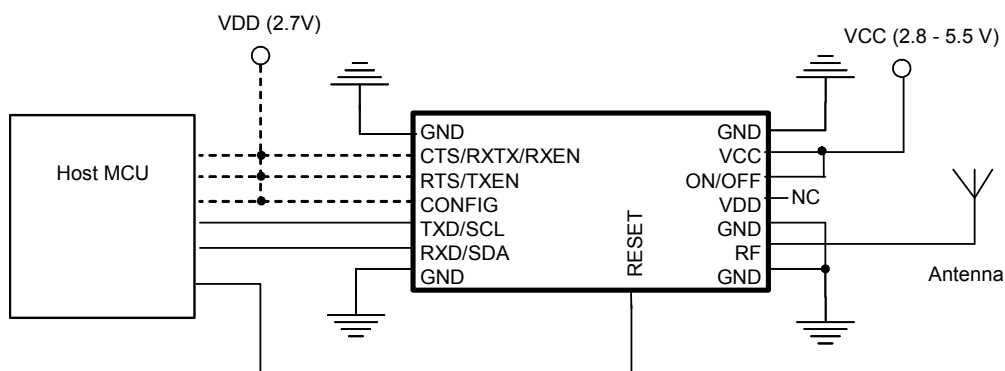

Figure 1. Reset circuit using host MCU
- Control the RESET pin by a separate I/O pin from the MCU (RESET has an internal 10k series resistor and a 100k pull-up to VDD). Set RESET low before ON/OFF is turned low, and keep low until ON/OFF is high again ($V_{CC} - 10\%$). This will ensure proper power-on reset (POR). See Figure 1 below.